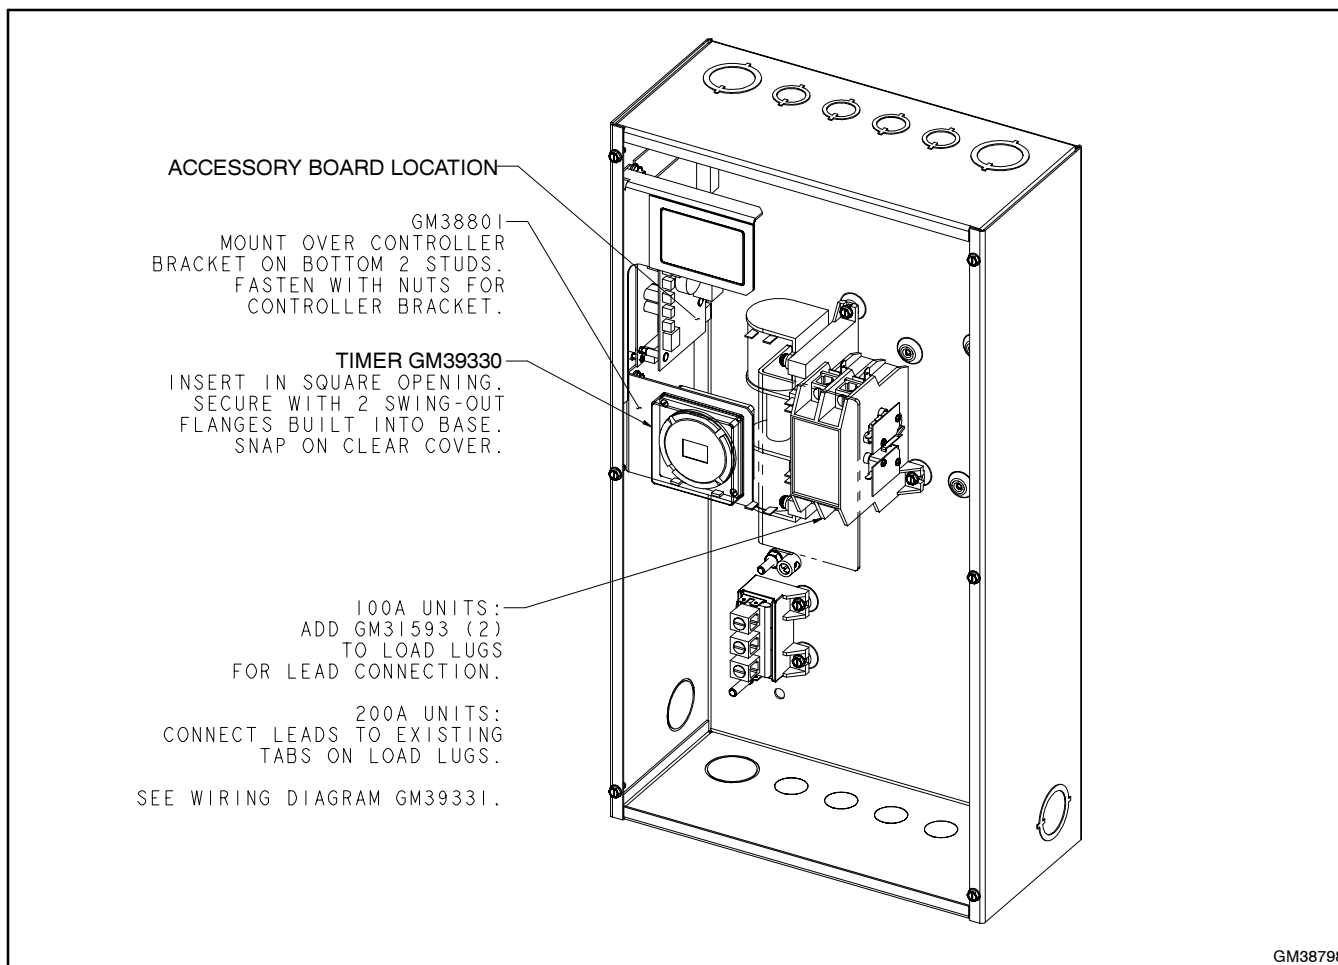
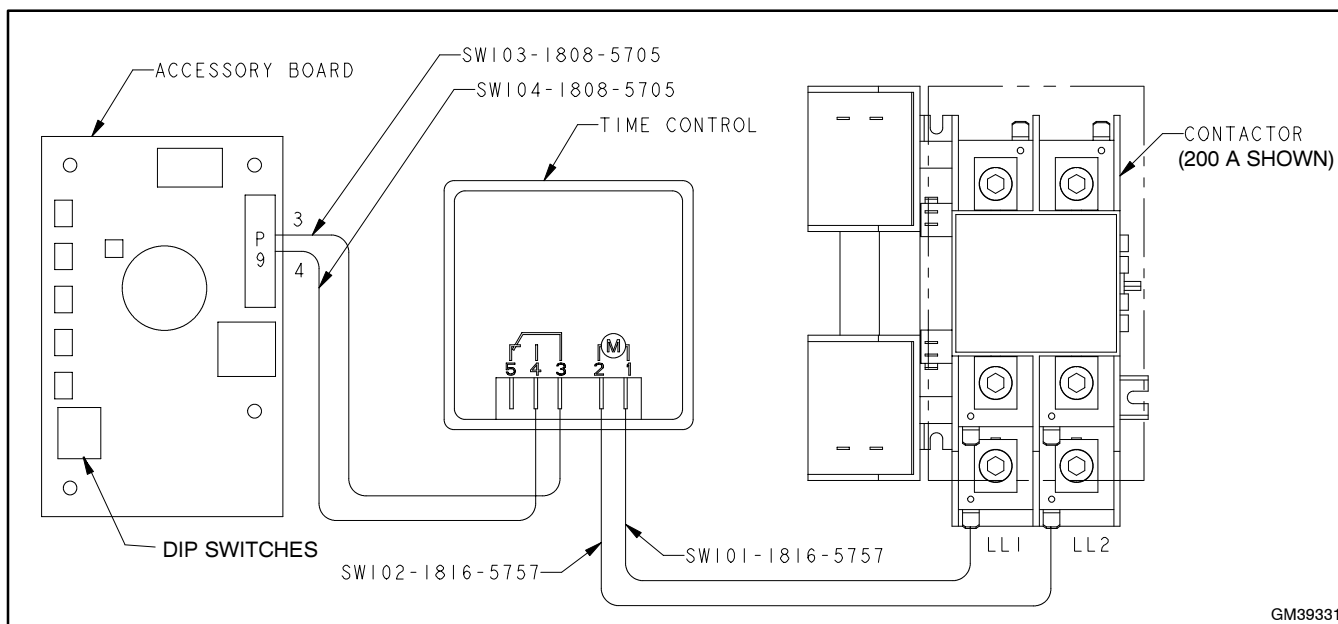

Figure 3 Mounting
Figure 4 Wiring Diagram
Mount the programmable exerciser on the bracket provided with the kit as shown in Figure 3.
1. Install the mounting bracket as shown in Figure 3.
2. Use the leads supplied with the kit to connect the exerciser according to the wiring diagram in Figure 4.
Set DIP switch #2 on the Accessory Board to select loaded or unloaded programmed exercise runs. See Figure 3 and Figure 4 for the location of the DIP switches on the accessory board.